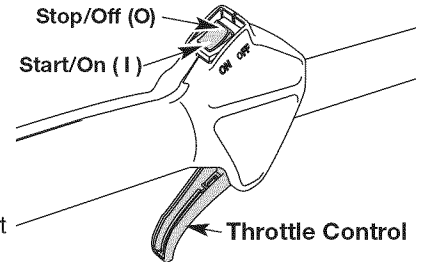

Fig. 2
**NOTE:** There is no need to turn the unit on. The On/Off Control is in the ON (I) position at all times (Fig. 2).
2. Press and hold On/Off Stop Control in the OFF (O) position until engine comes to a complete stop (Fig. 2).